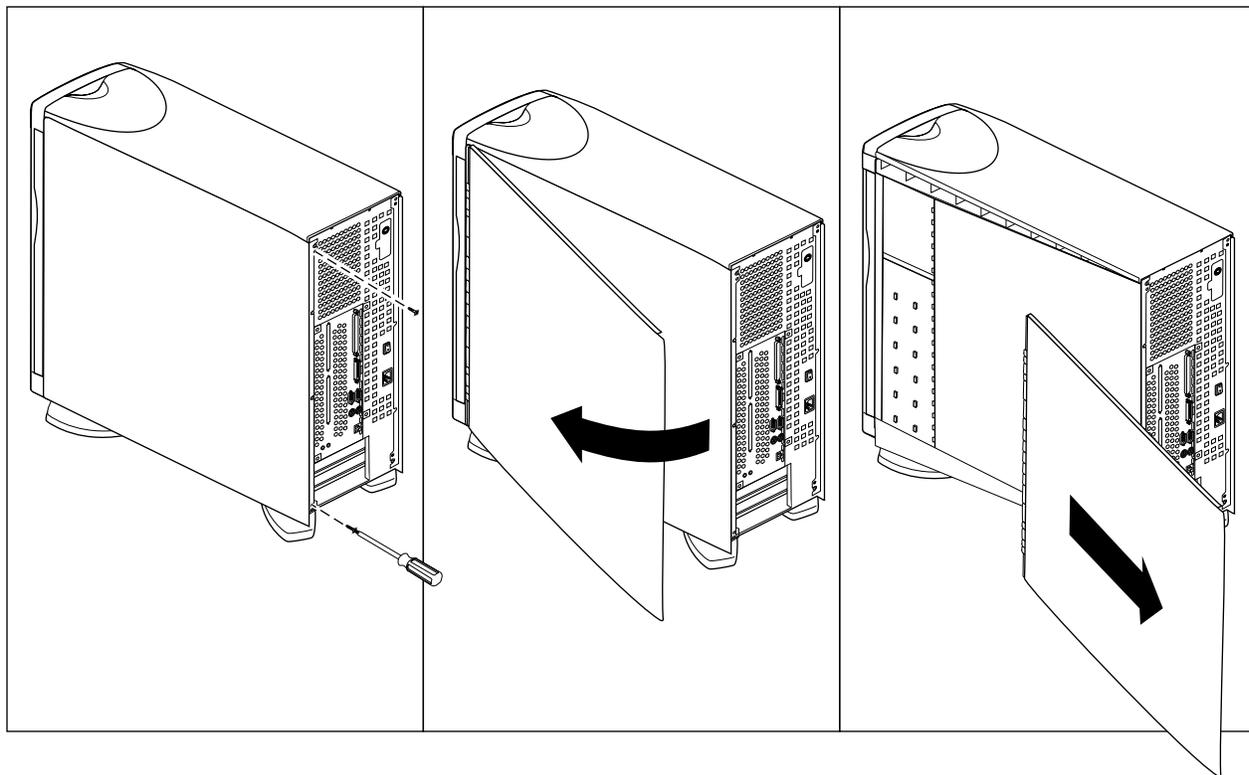

Figure 5-6 Removing the System Cover, Tower Origin200 System
2. Remove the system cover, as shown in Figure 5-6.